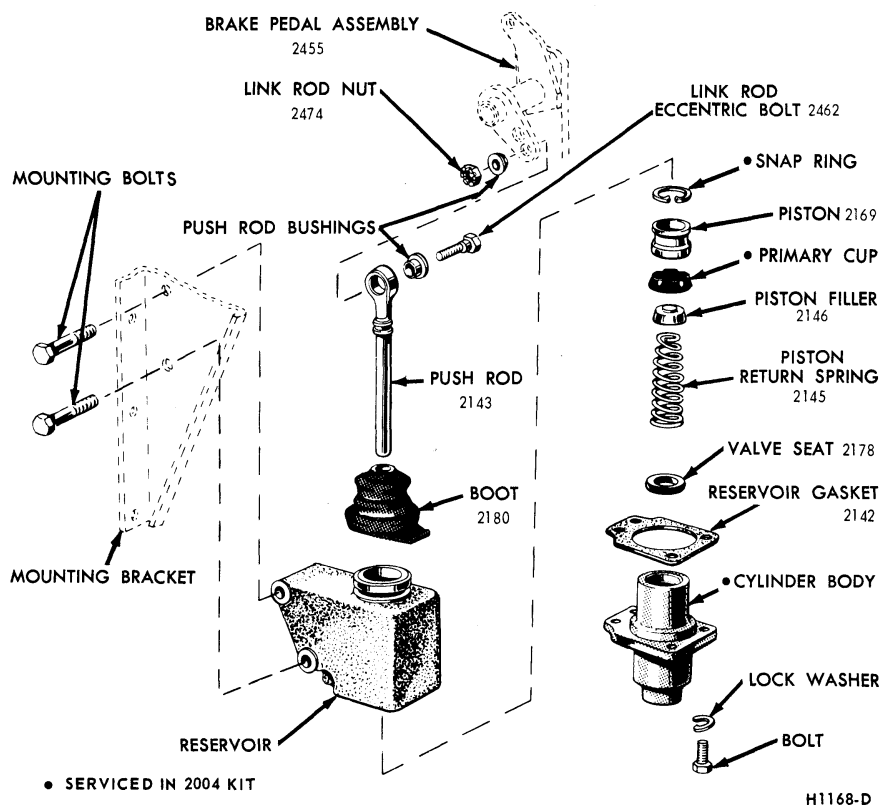

FIG. 23 C-Series Single Brake Master Cylinder
1. With the master cylinder removed, clean the outside of the master cylinder, and remove the filler cap and gasket. Pour out any brake fluid that may remain in the cylinder and reservoir. On a C-Series truck master cylinder (Fig. 23), remove the 4 bolts that hold the cylinder body on the reservoir, and remove the gasket. Press down on the piston to compress the return spring, and remove the snap ring. Remove the piston, primary cup, piston filler, return spring, check valve, and check valve seat.